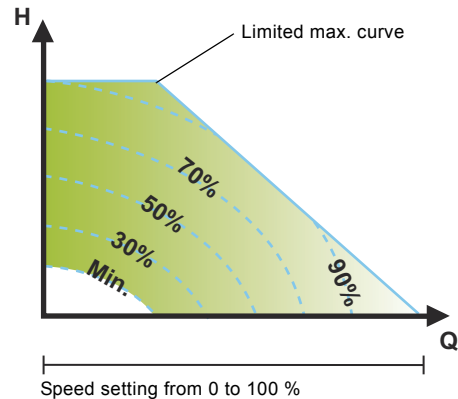

Fig. 26 Power and pressure limitations influencing the maximum curve
**Note:** If the pump speed is set in the range between minimum and maximum, the power and pressure are limited when the pump is running on the maximum curve. This means that the maximum performance can be achieved at a speed lower than 100 %. See fig. 26.